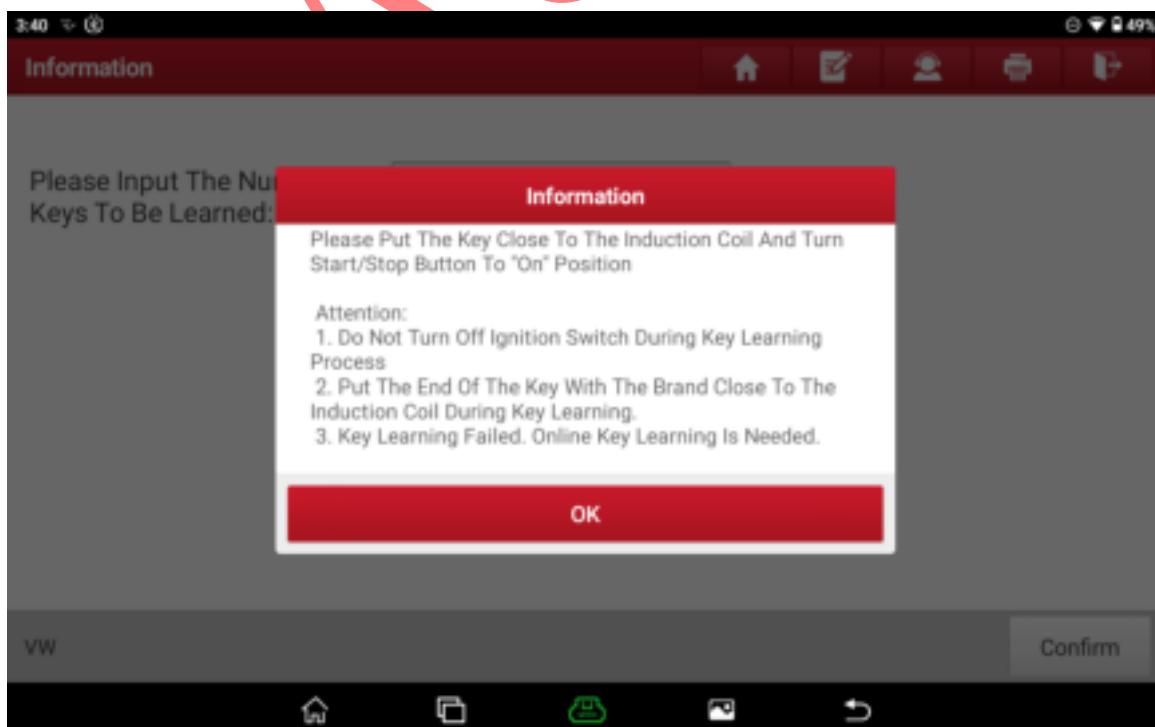

Figure 31
30. Keep the key in the sensing area on the right side of the steering column and select OK, as shown in Figure 31.